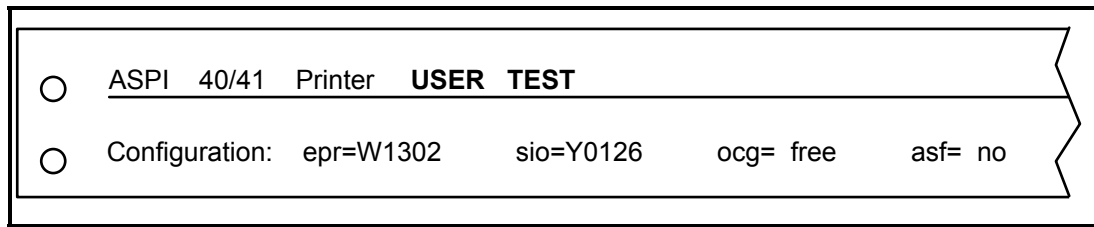

Figure 17-2 — Printer User Diagnostic Test Message 3011
4. When the display window shows **T&DG**, the printer prints configuration information similar to that shown on Figure 17-2. The configuration information is: